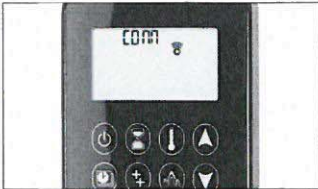

Figure 13: Synchronization in process
Press and hold the receiver's reset button (see figure 15, page 7) until you hear two (2) beeps. After the second, longer beep, release the reset button. Within the subsequent 20 seconds press the  button on the handset. Two (2) short beeps confirm the code is set. "CODE" is displayed on the handset showing the synchronization (see figure 13). After successful